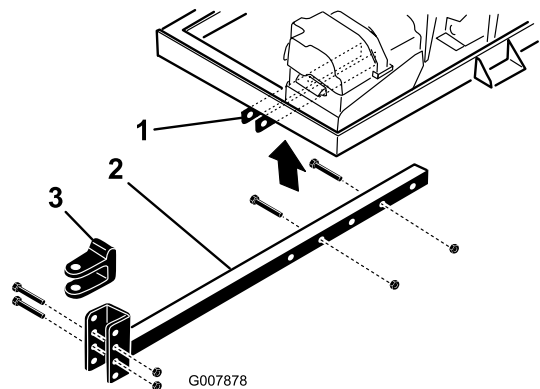

Figure 4
2. Insert the hitch tube into the frame brackets (Figure 4). Secure the tube to the frame with 2 bolts (3/8 x 3 inches) and flange nuts (3/8 inch) and torque to 40 N·m (30 ft-lb).
- Remove the bolts and locknuts securing the hitch clevis (Figure 4) to the hitch tube.
- Remove the bolts and nuts securing the hitch tube to the frame brackets (Figure 4).